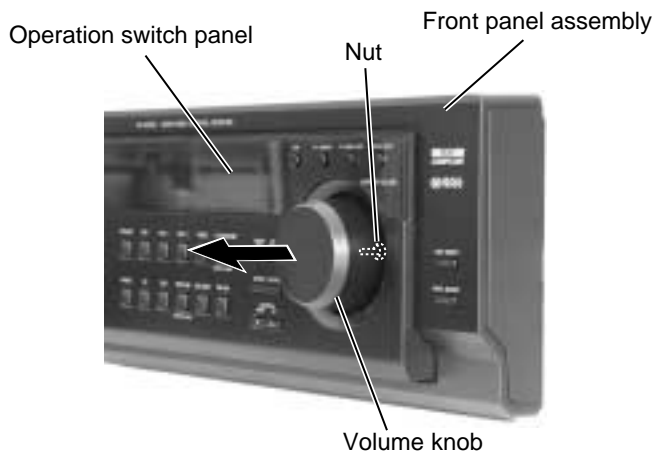

Fig.20
**■ Removing the system control board / power switch board (See Fig.20 to 22)**